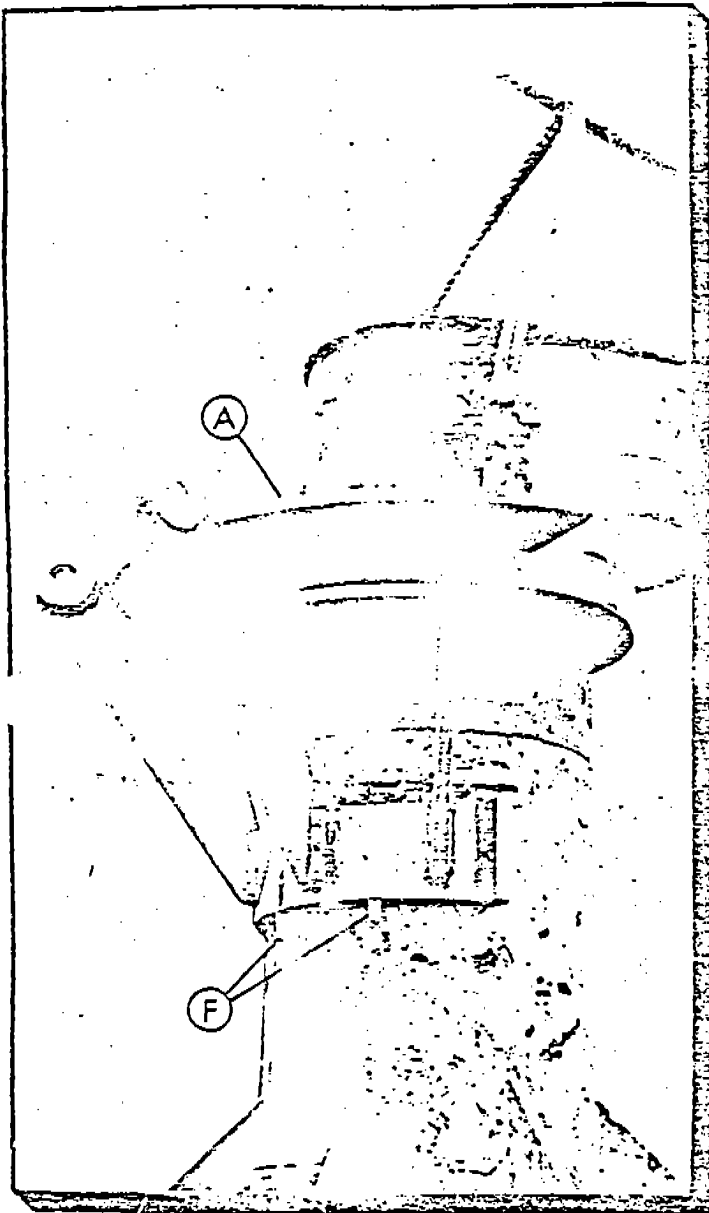

FIG. 1
(1) Mount the column cable adaptor (A) Fig. 1, consisting of two halves, by means of a rope or light cable placed over a sweep support rod as shown in Fig. 1. Align the top plate of the adaptor flush with the top of eccentric tube weather band and position vertical ears in alignment with center line of sweeps. Install and secure retaining bolts.
(2) Weld 4 equally spaced 1/2" X 2-1/2" keystops (F) Fig. 1 to main pipe directly below lower clamp band of column cable adaptor. Weld keystops on sides only.